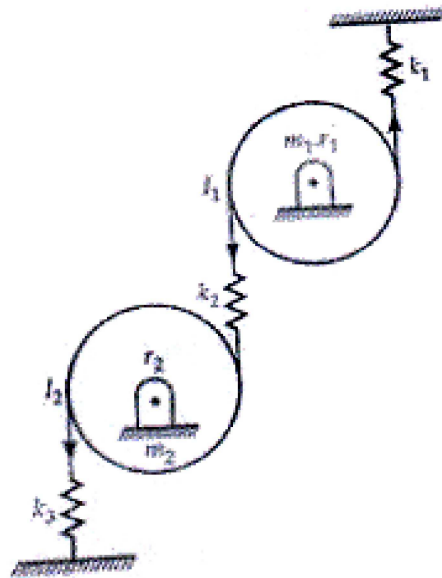

Fig. 2 (Q. 5 a)
**Q5) a)** Find the natural frequencies of the system shown in Fig. 2. [12]